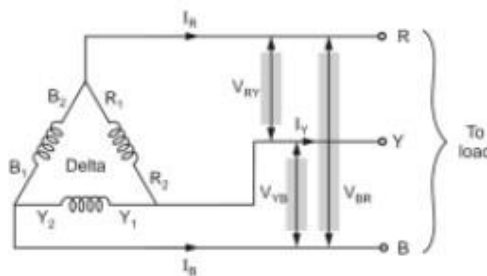

Fig. 1.5.5 Delta connection
- Similarly for delta connected system we can show the line voltages and line currents as in the Fig. 1.5.5.